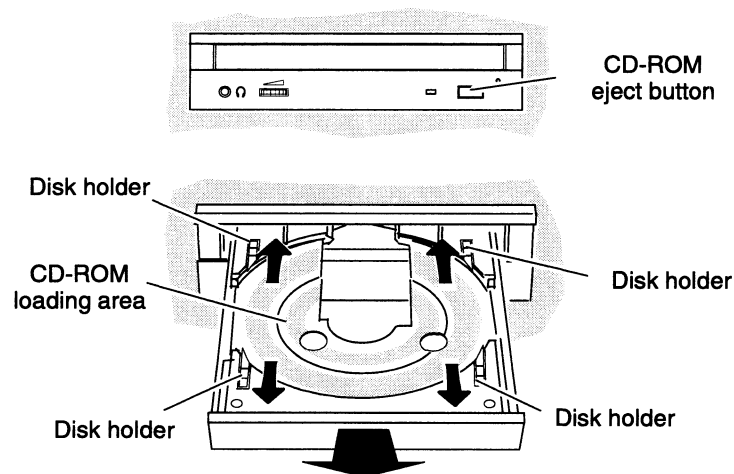

Figure 10 Opening the CD-ROM drawer using the eject button and positioning the disk holders for horizontal operation
2. Press the CD-ROM drive's eject button located on the lower right corner of the front panel. The CD-ROM drive's drawer moves out, exposing the loading area (Figure 10).
IMPORTANT You use the four disk holders (Figure 10) to hold the CD-ROM disk only when the drive is mounted in the chassis in the vertical position. When the drive is mounted horizontally, latch them out of the way by pushing them away from the loading area as shown by the arrows in Figure 10.